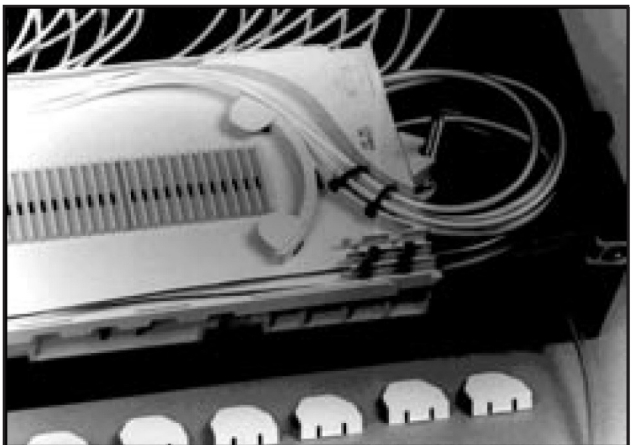

FIGURE 10 - SECURE FIBERS TO SPLICE TRAY
- 8.07** Secure the Pigtail Assemblies and Fibers to the Splice Tray with the tie wraps. (Figure 10, next page)